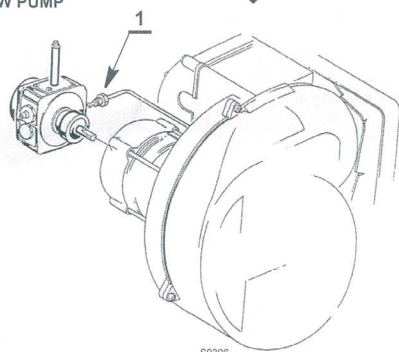

Fig. 7
- Tighten the coupling 1) (Fig. 7) with a tightening torque of 15 Nm ± 1Nm.